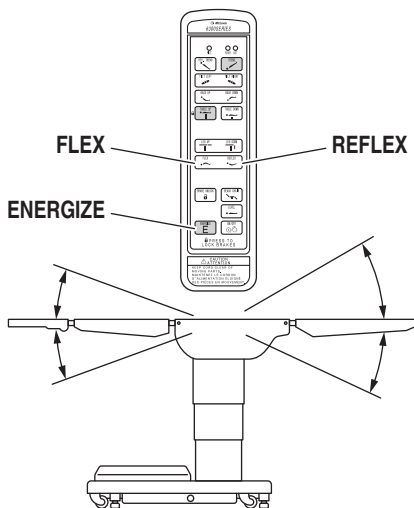

Figure 2-13. Flex/Reflex Positioning
g. Flex Positioning To place the table top in a flex position from horizontal, press the ENERGIZE button and then the FLEX button (figure 2-13). To return the table top to a horizontal position or into a reflex position, press the ENERGIZE button and then the LEVEL or REFLEX button.